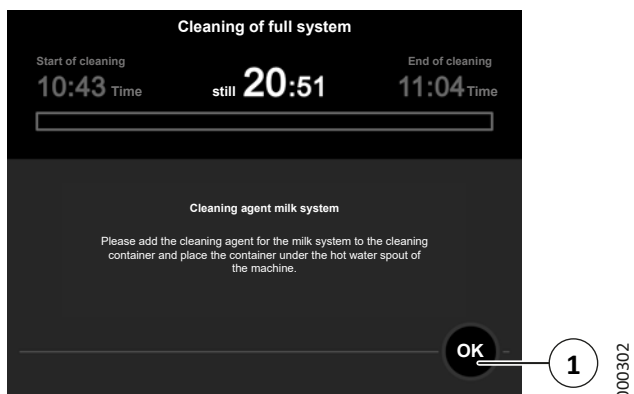

Fig. 45: Prompt “Cleaning agent milk system”
2. Insert one cleaning tablet (1) into the prepared cleaning container (2).
3. Press the “OK” button (1) (see Fig. 45) to confirm that the cleaning agent has been added.